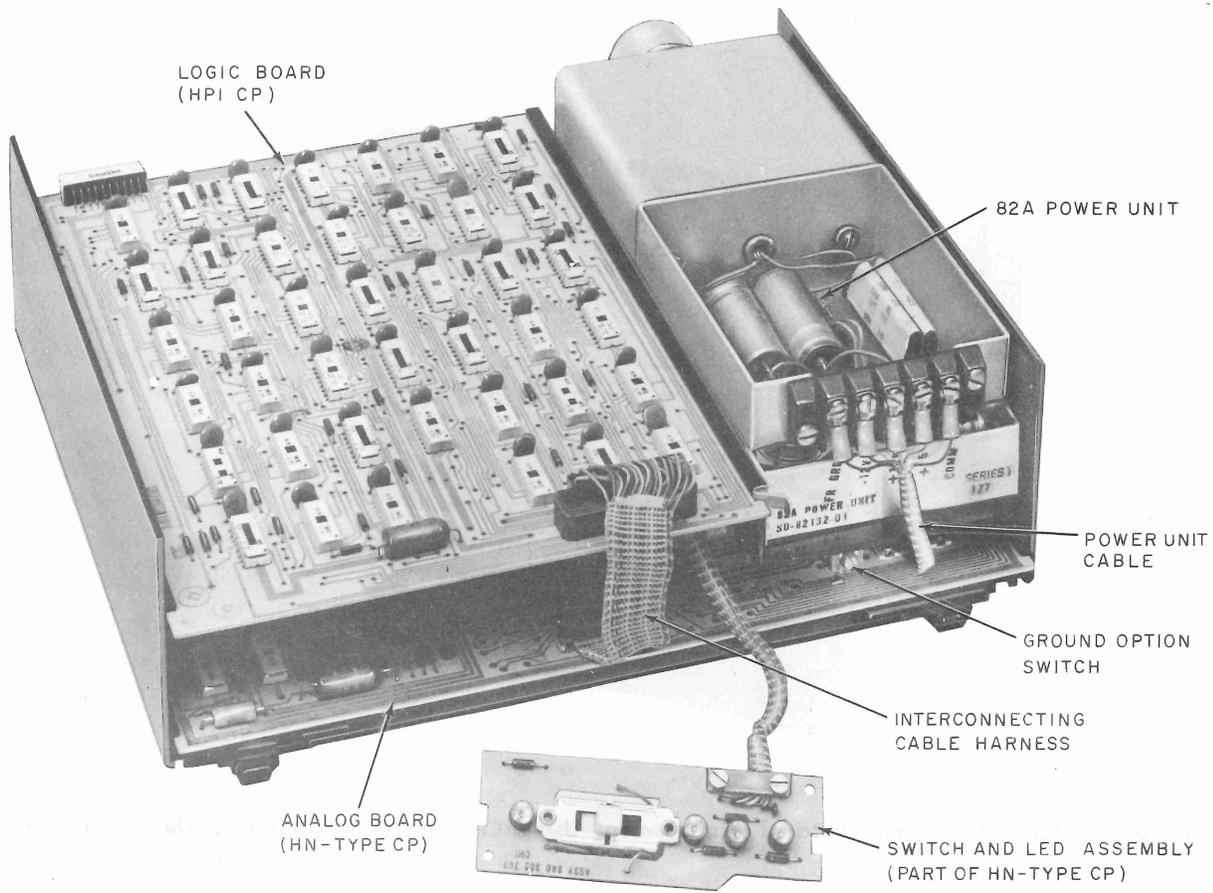

Fig. 7—500A-Type Data Service Unit—Front Internal View
3.11 The 500A DSUs must be adapted for mounting in the 48A-L1/2. The L1/2 designation provides bearing plates which are required for mounting the DSU in the data mounting. Figures 7 through 11 depict a 500A DSU being adapted for mounting into the 48A-L1/2 data mounting. The mounting procedure is as follows.